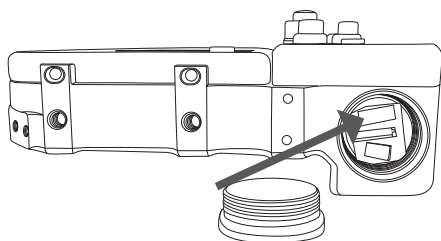

Figure 10
- Carefully remove the battery holder using the tab, making sure not to pull on the cable connected to the housing; (Fig. 10)